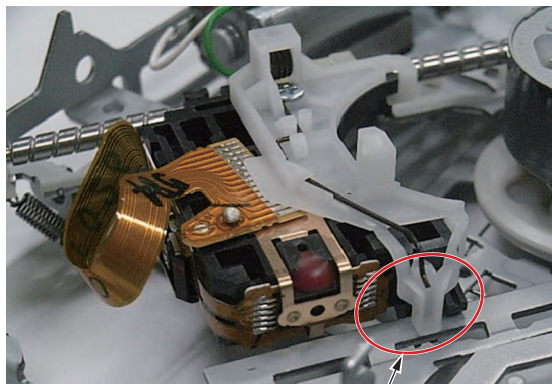

Fig. 4
**Note:** When reassembling the PU unit, be sure to securely engage the PU unit with the part B of the chassis, as shown in Fig. 4. Also, be sure to change the engagement position of the bias spring of the feed screw to its original position (Fig. 2a). After reassembling, perform the PU adjustment, following the description in the service manual.